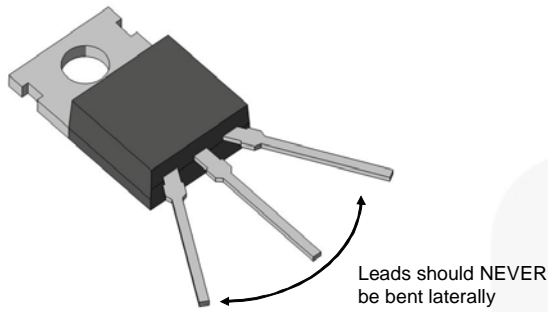

Figure 3. Leadforming Should Avoid Lateral Bends
- The leads should never be bent laterally (sideways) (see Figure 3).